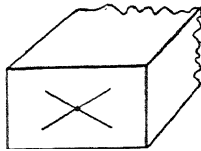

FIG. 76.
*Diagonal-line Method* (Fig. 76).—Rectangular pieces are easily centered by drawing diagonal lines.